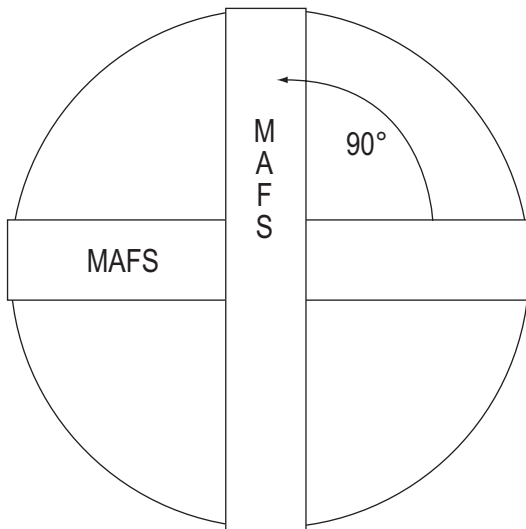

Figure 2: Cross-sectional view of probe placement in a round duct
2. Locate probes 90 degrees apart. See Figure 2 for an example.